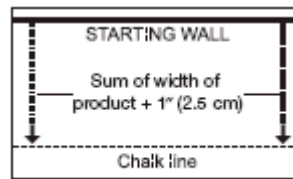

Figure 7
- In at least two places at least 18" (46 cm) from the corner, measure out equal distance from the starting wall (Figure 7) the face width of the starter board plus 1" (2.5 cm) (do not include the width of the tongue in this measurement). Mark these